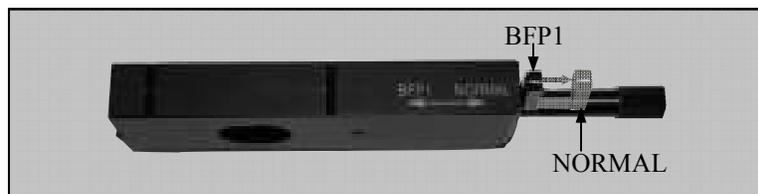

Figure 5. Principal Prism Slider.
**NOTE:** This slider has two positions, Normal and BFP-1 (see Figure 5). This corresponds to the type of objective that you are using. If you are unsure, check the objective, it will say BFP-1 if that is the correct position.